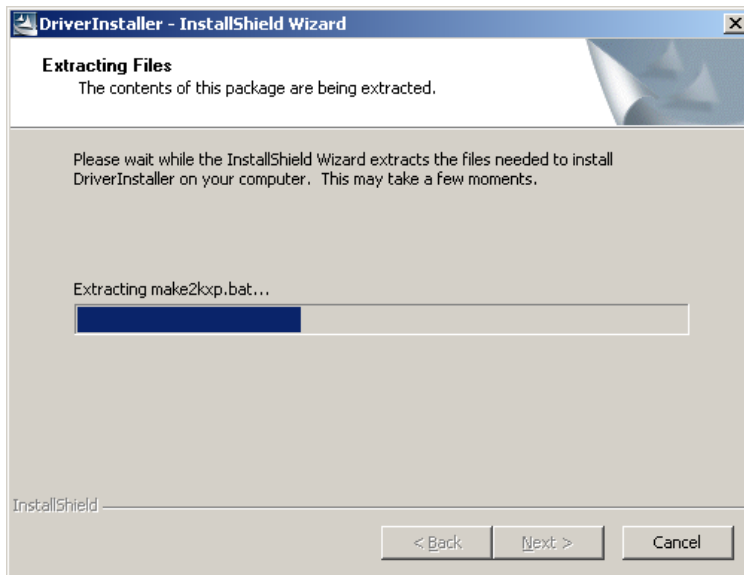

Figure 7-22: File Extraction Continues
Step 11: File extraction continues (Figure 7-22).